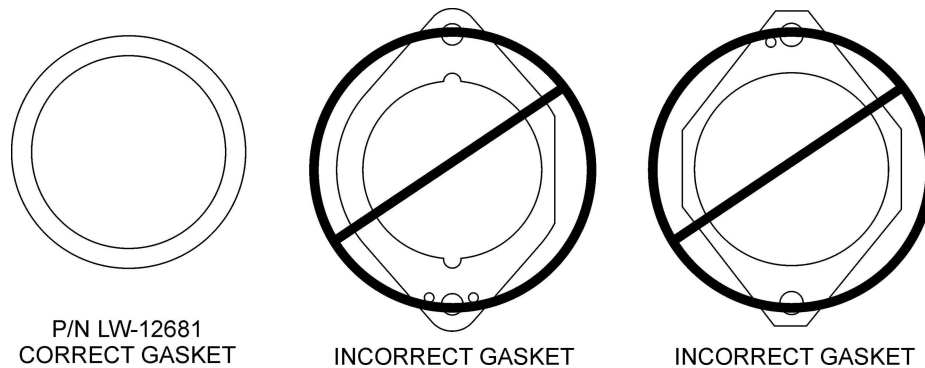

Figure 1
5. Install the dual magneto with the correct new magneto gasket P/N LW-12681. No other gaskets are acceptable. See Figure 1.